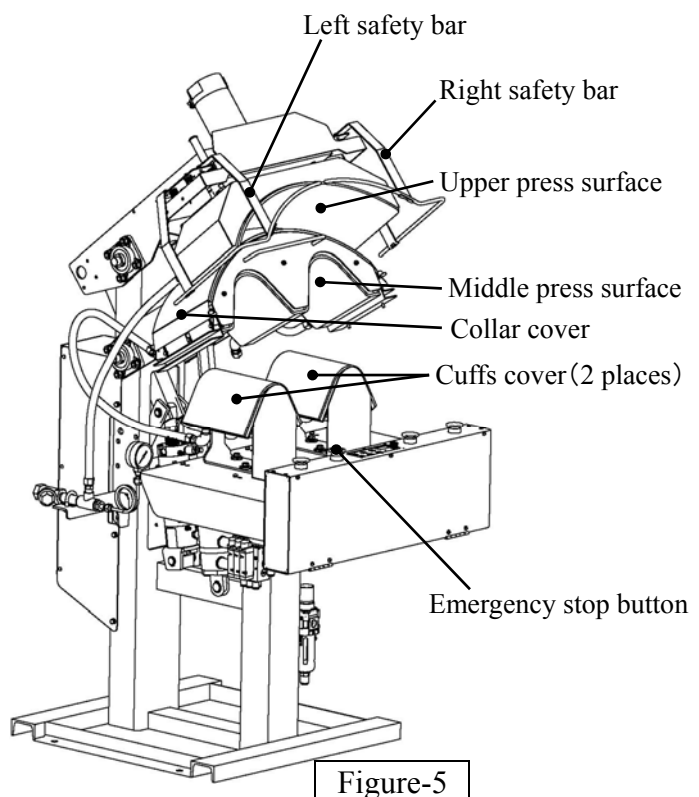

Figure-5
4. Cover and Padding: Figure-5
5. Check and clean press surface :Figure-5
6. Emergency Stop Button: Figure-5